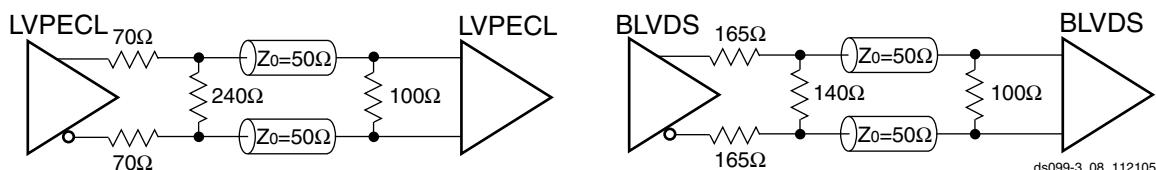

Figure 34: External Termination Required for LVPECL and BLVDS Output and Input
- Each LVPECL_25 or BLVDS_25 output-pair requires three external resistors for proper output operation as shown in Figure 34. Each LVPECL_25 or BLVDS_25 input-pair uses a 100 Ω termination resistor at the receiver.